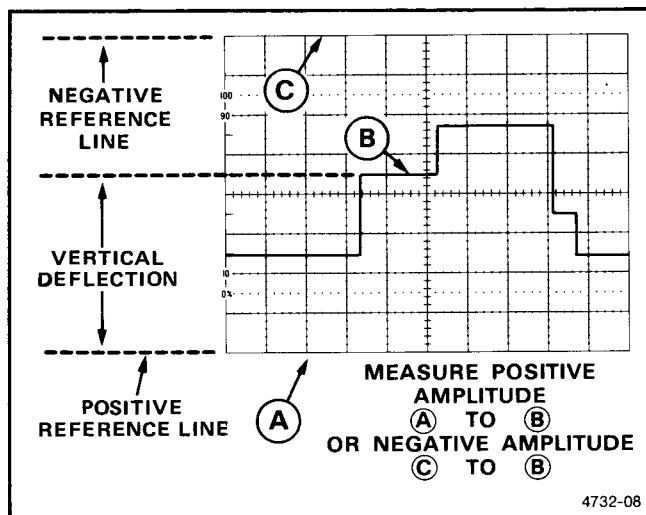

Figure 4-3. Instantaneous voltage measurement.
9. Measure the divisions of vertical deflection between the ground reference line and the point on the waveform at which the level is to be determined (see Figure 4-3).
EXAMPLE: The measured vertical deflection from the reference line is 4.6 divisions (see Figure 4-3), the waveform point is above the reference line, a 10X attenuator probe is being used, and the VOLTS/DIV switch is set to 2 V (at 10X PROBE setting).